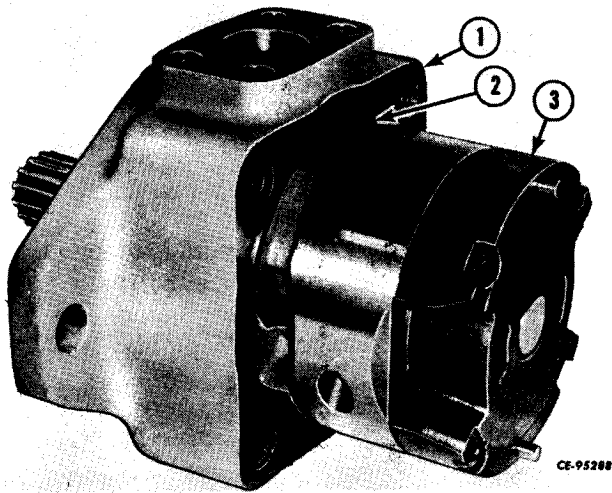

Figure 11-25
Remove the "O"-ring (2, Fig. 11-25) and cartridge (3) from the body (1).